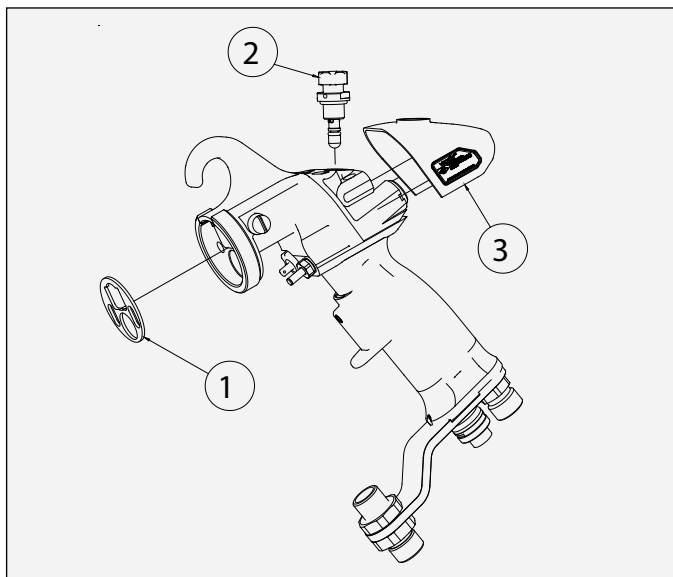

Figure 31: Air Valve and Rear Cover Removal
- Unscrew needle/electrode from shaft and slide the male chevron adapter, the chevron seals and female chevron adapter off the shaft (see Figure 31).
(Refer to Figures 31, 32, 33, 34, 35, 36, 37, and 38)